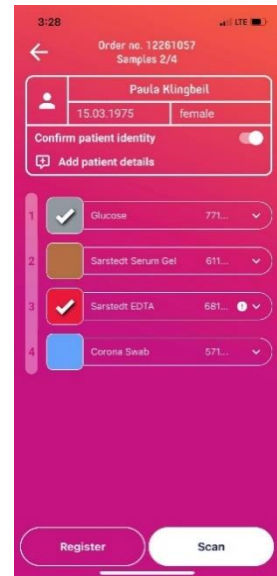

Figure 15. Multiple samples check-in
- a.** Tap on the sample(s) that need to be registered on the order overview page after verifying the order and patient ID (see Figure 15).
You can select all samples in an order by tapping on the  button (see Figure 15).